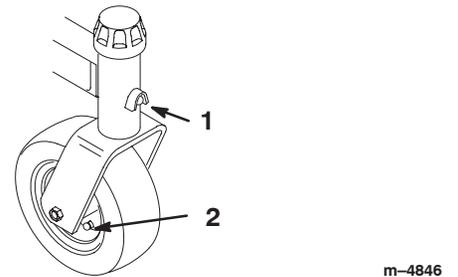

Figure 74
5. Grease the fittings on the carrier frame castor hubs and castor wheels (Fig. 74).